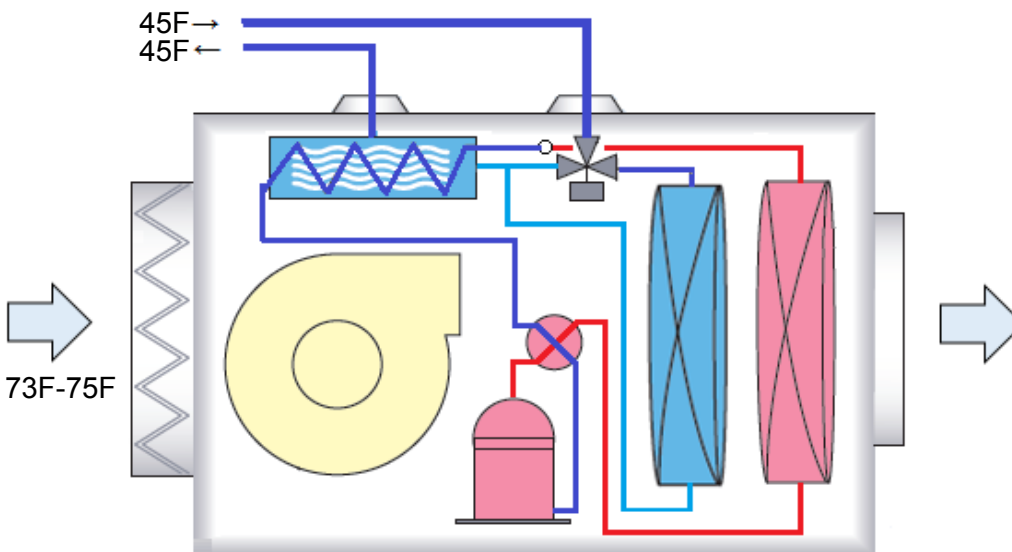

Fig.4 Dry mode operation
- As shown in Figure 4, since the fan blowers cooled by a cold water coil, then reheated through the direct expansion coil and blown out, so dehumidify it.